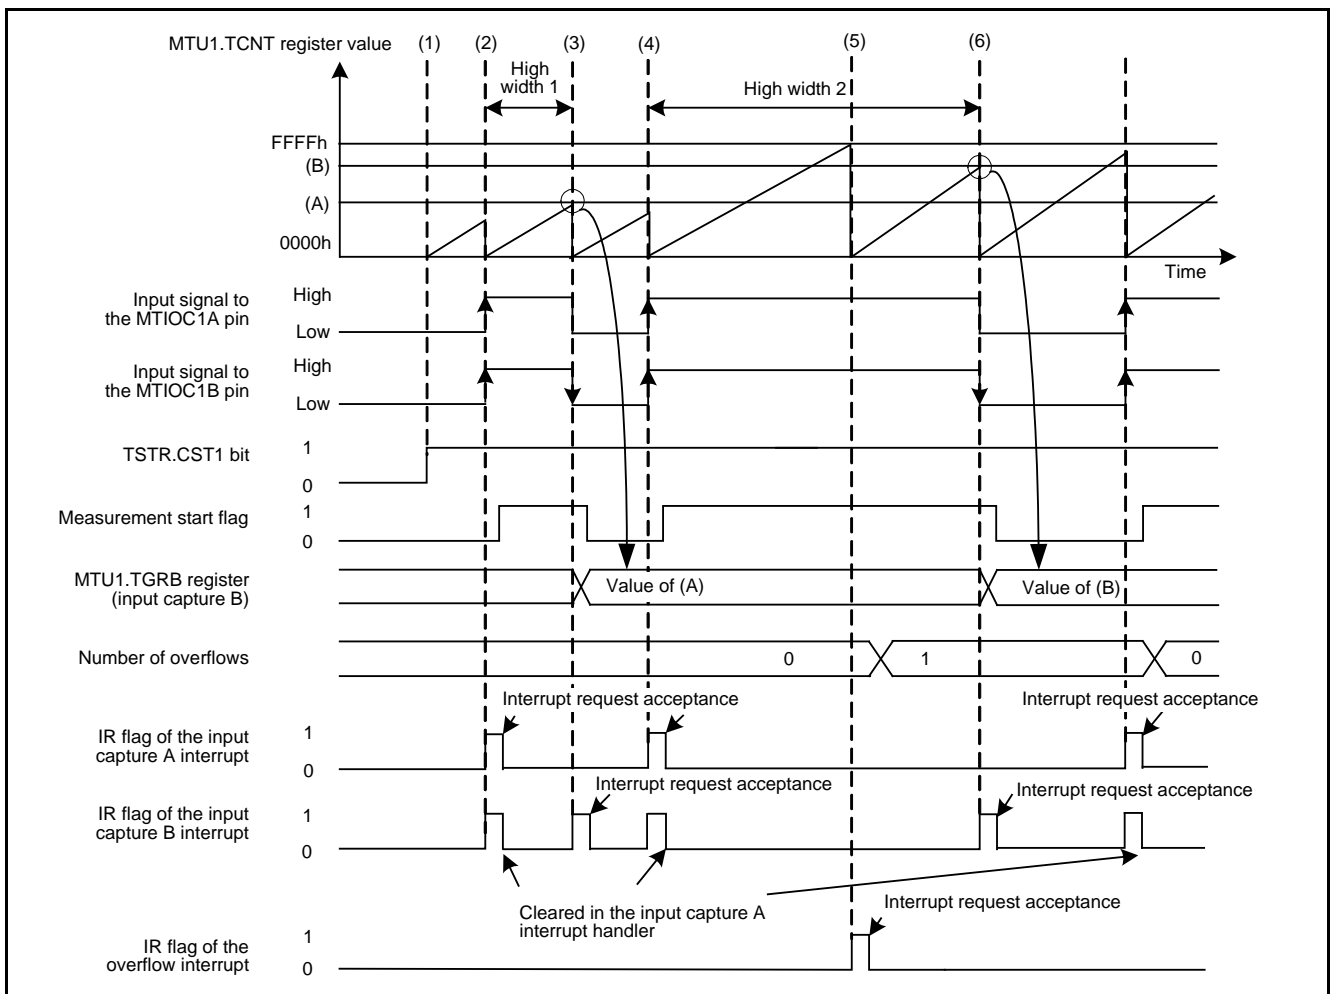

Figure 5.1 Timing Diagram of the Pulse Width Measurement
- (6) When the level of the MTIOC1B pin changes from high to low, the same operation as (3) is performed.
Figure 5.1 shows the Timing Diagram of the Pulse Width Measurement. (1) to (5) in the figure correspond to (1) to (5) in the description above.